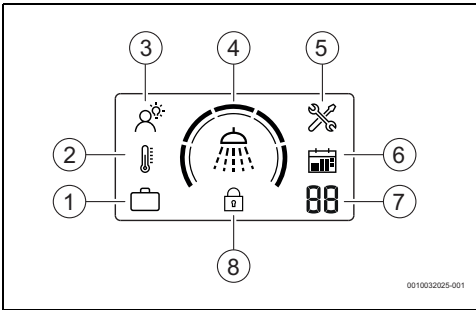

Fig. 5 Display controller assembly
- ▶ Press the key until SMART mode appears on the display (→ Fig. 5 [3]).
- ▶ Press the key until Manual mode appears on the display (→ Fig. 5 [2]).
- ▶ Press the  key until Vacation mode appears on the display (→ Fig. 5 [1]).
- ▶ Press the key  to set the desired number of vacation days (→ Fig. 5 [7]).
This function locks the control panel (→ Fig. 5 [8]).